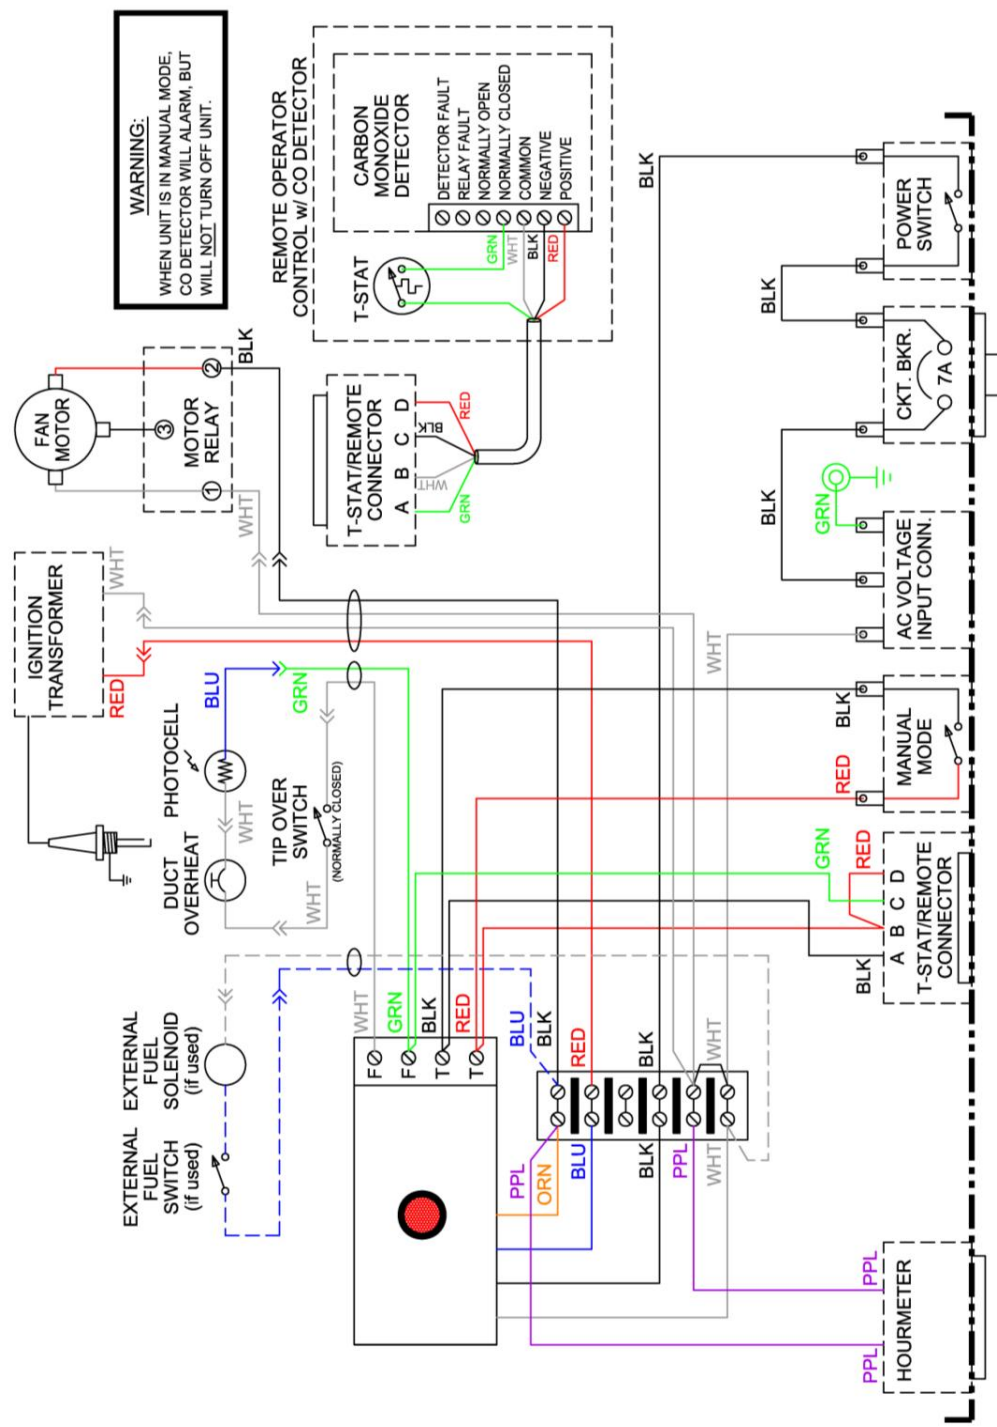

Figure 4-2. Wiring Diagram
5. The heaters have ¼ horsepower motors and separate starting relays. See the wiring diagram, Figure 4-2.
8. Take the black motor wire off its terminal (3) of the starting relay. Attach the jumper to the terminal (2) of the red lead and plug in the heater. The motor should start. As soon as the motor reaches operating speed, remove the jumper from terminal (2). The motor should continue to run.
9. If the motor starts and continues to run install a new relay. Disconnect the power cord and re-connect the wiring according to the wiring diagram. See Figure 4-2.